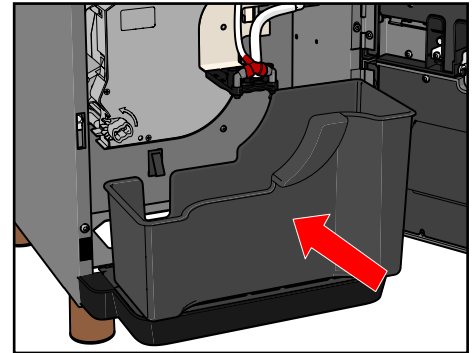

Figure 34.
4. Replace the waste bucket (see Figure 34).
19. Replace the waste bucket (see Figure 34) and the drip tray with grille.